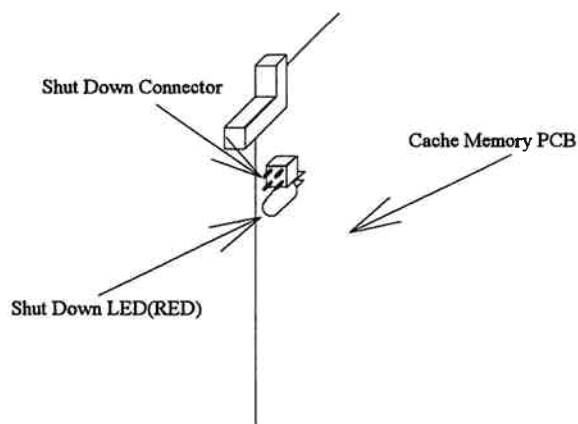

Fig. 3.4.1.4.2-1 Location of the Shut Down LED
- a. While referring to Fig. 3.4.1.4.2-1 and Table 3.4.1.4.2-1, check the Shut Down LED on the Cache Memory PCB in the Logic Box. See "Connection of Shut Down Jumper (INST03-2600)" if the Shut Down LED is not on.